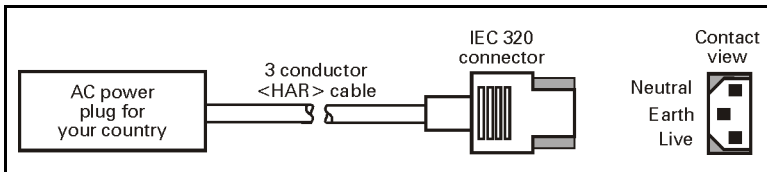

Figure 35
- The chassis ground (earth) **MUST** be connected to ensure safety and reduce electromagnetic interference. The ground connection is handled by the third wire (earth) in the power cord (see Figure 35).